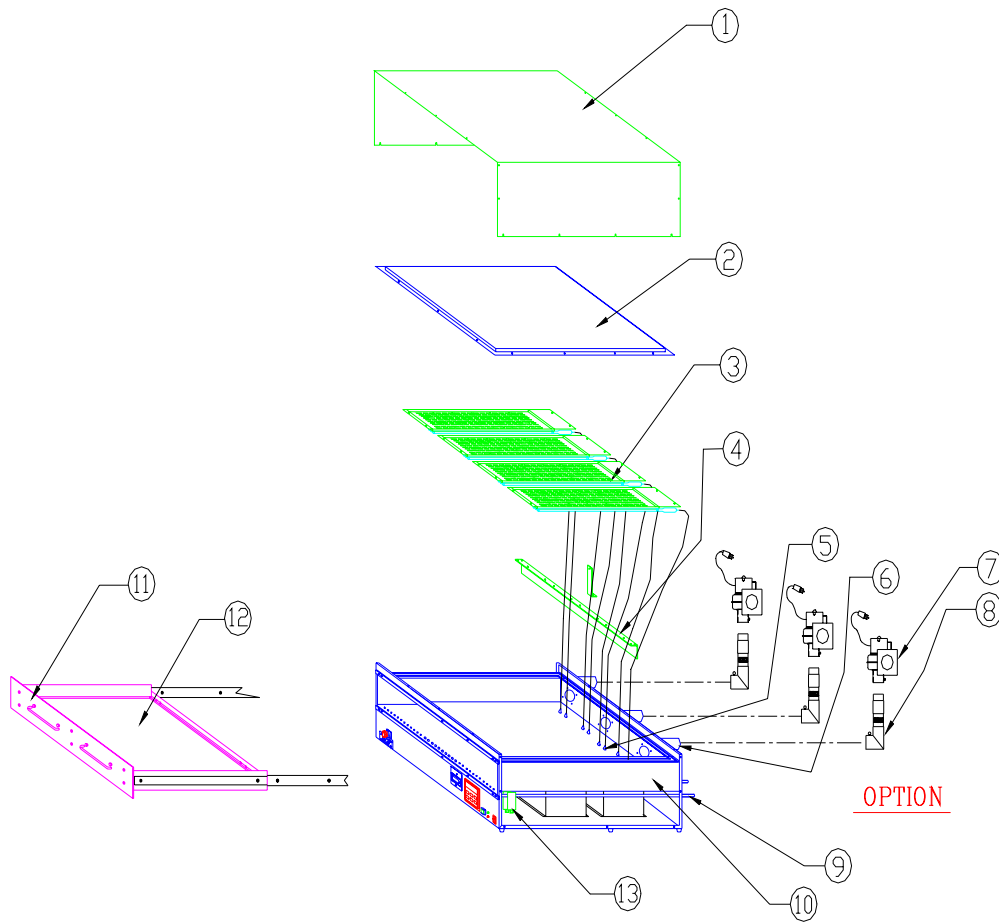

Figure 2
*Please see figure 2 to match corresponding reference numbers below.*